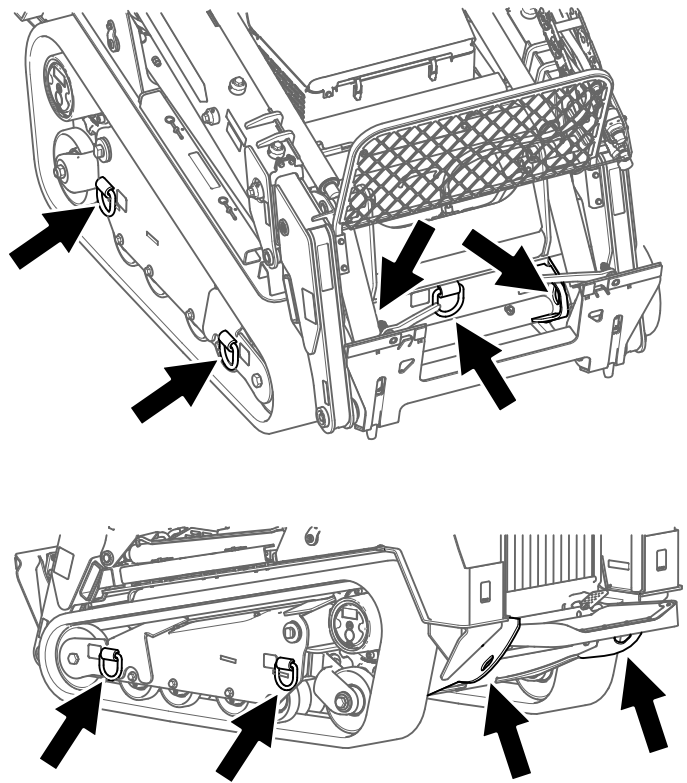

Figure 31
6. Tow the machine as required using the tie-down locations (see Figure 31).